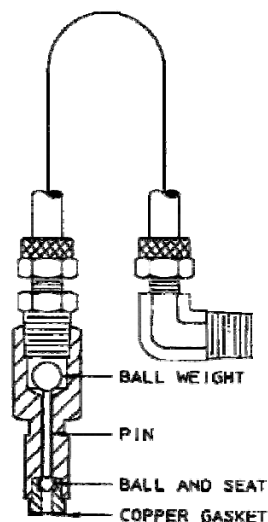

FIGURE 14
4.8 Automatic Bleed Valve (Figure 14)